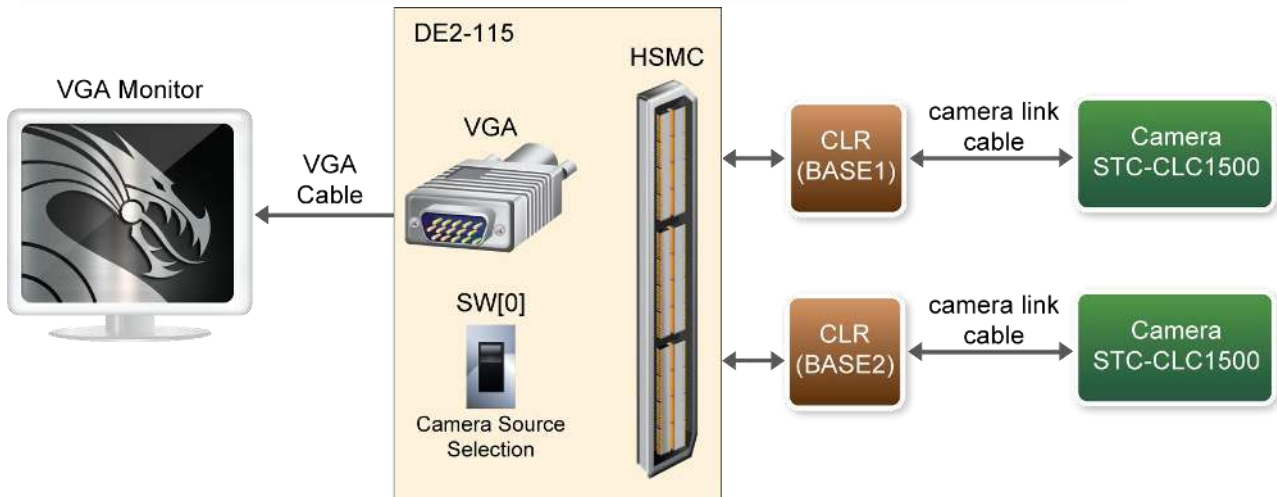

Figure 5-6 The Connection Setup for DE2-115 Users
1. Ensure the connection is made correctly as shown in **Figure 5-6**. Make sure the CLR Card is connected to **JP8 (HSMC)** of the DE2-115 board.
V1.1	Figure 5.6 add BASE2 camera description